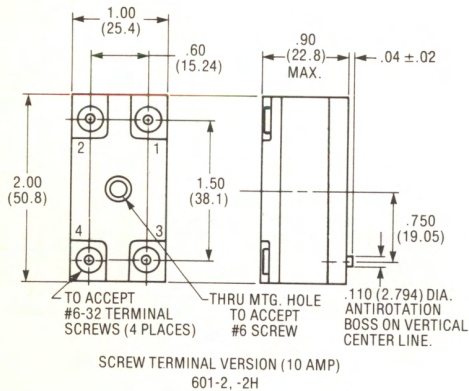

FIGURE 6
3. Basic part number provides screw terminals (Fig. 6) or PC board pins (Fig. 7).